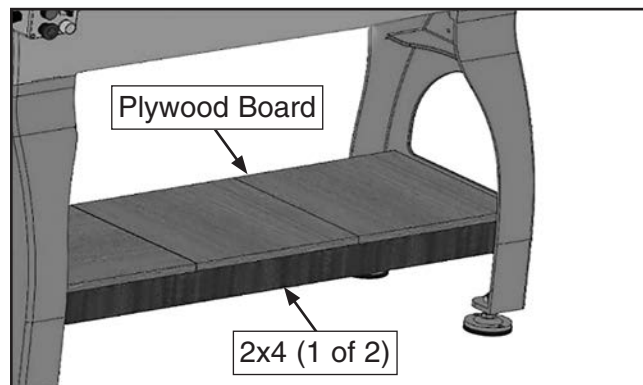

Figure 19. Boards installed and secured in shelving option two.
1. Set two 2x4s (or 2x6s) on edge in lower brackets of leg castings (see **Figure 19**).
2. Cut plywood board (see **Figure 19**) to fit flush with outside edges of 2x4s and secure with wood screws.